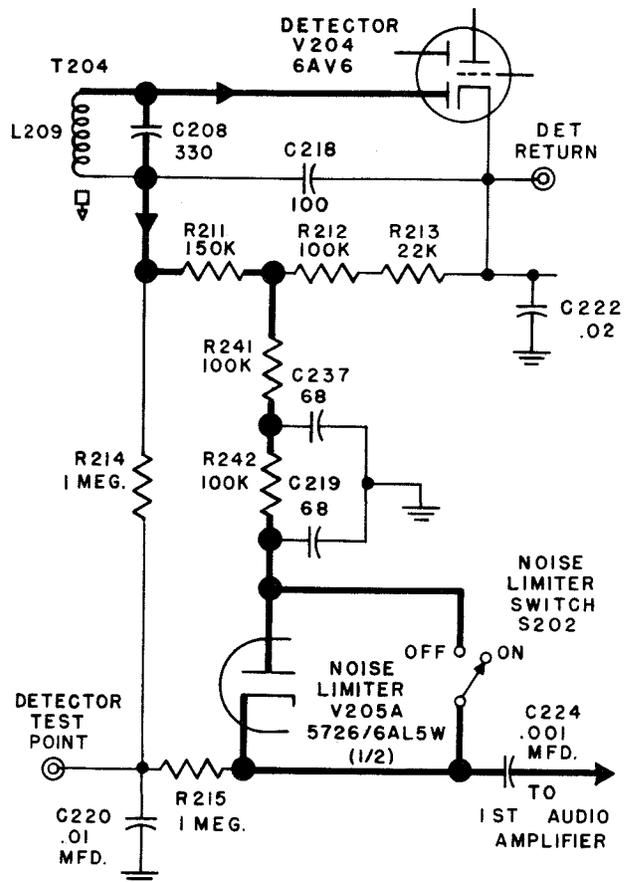

Figure 2-12. Simplified Schematic,
(2) DETECTOR-NOISE LIMITER.—As indicated in the simplified schematic figure 2-12, one diode section of the type 6AV6 tube (V204) is used as a detector. The detected audio voltage appears across C218